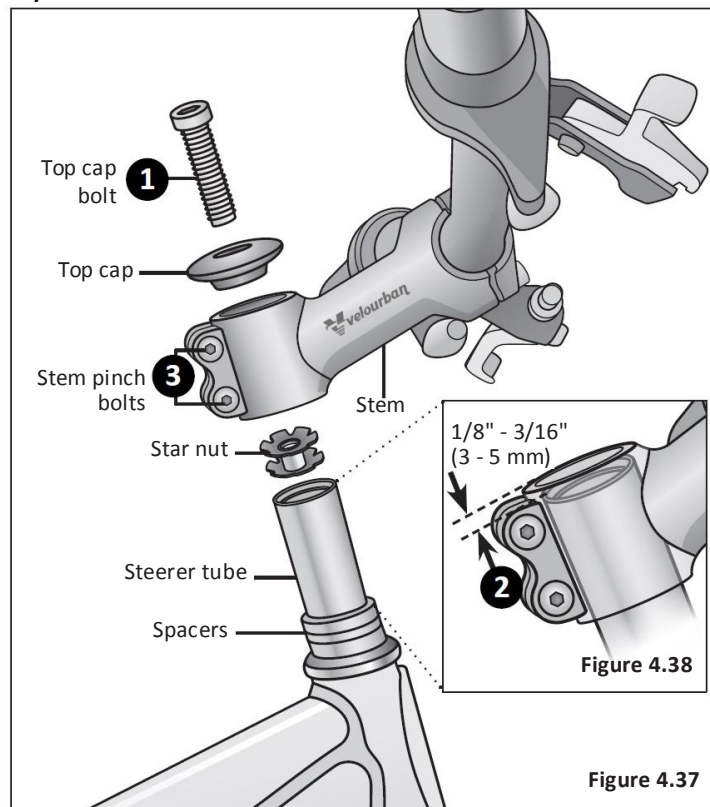

Figure 4.37
- ❶ Loosen the top cap bolt and remove the top cap.
**Important! Do not** disassemble the headset or loosen any parts. Be sure the end of the fork is on the ground or being held with your free hand, because once you loosen the top cap the fork assembly may fall out of the frame. **Figure 4.37**
- ❷ Check that the gap between the top of the steerer tube and top of the stem is between 3 - 5 mm ( $1/8"$  -  $3/16"$ ).